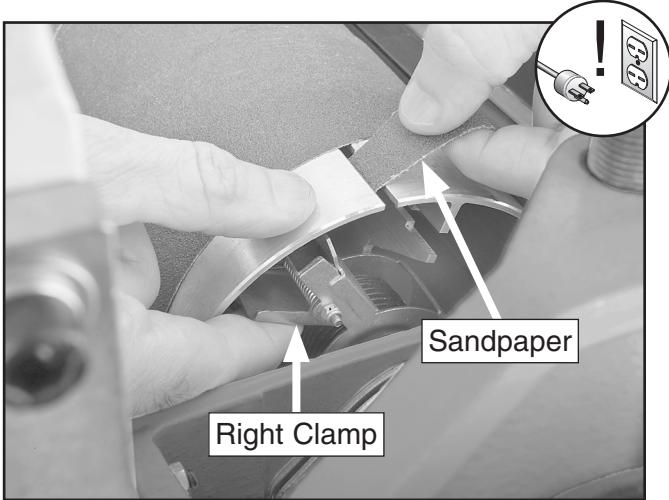

Figure 38. Right clamp pushed forward to release sanding belt.
- Squeeze right clamp and remove sandpaper from clamp (see **Figure 38**).